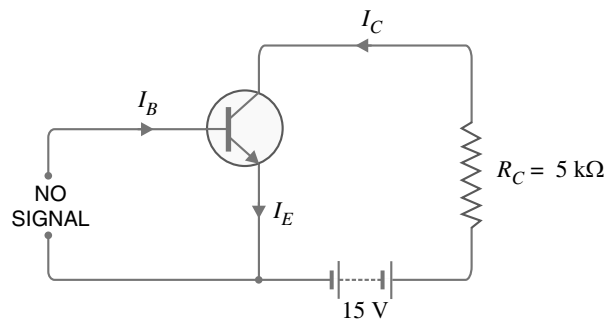

Fig. 6.79
12. For the circuit shown in Fig. 6.79, draw the d.c. load line.